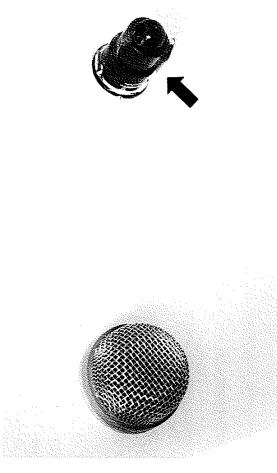

Figure 19
1. Make sure the valve is in the "On" position. The "On" position is when the valve is in line with the tube. See figure 19.